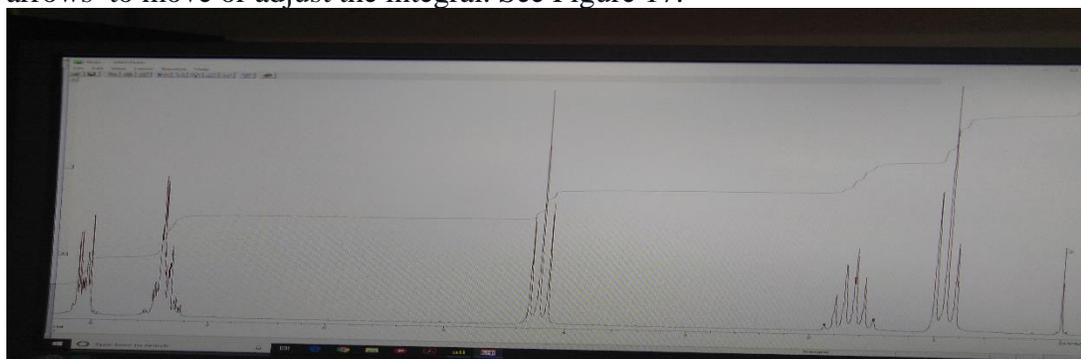

Figure 17. NUTS screen showing the integral on the spectrum.
21) Type 'ID', an integral will appear on the screen above the spectrum. Move left side arrows to move or adjust the integral. See Figure 17.